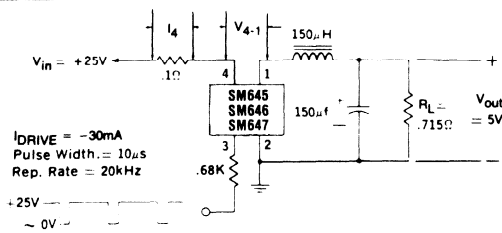

Figure 1. SM645, 646, 647 Switching Speed Circuit
- The efficiency is a measure of internal power losses and is equal to Output Power divided by Input Power. The switching speed circuit of Figure 1, in which the efficiency is measured, is representative of typical operating conditions for the SM600 series switching regulators.